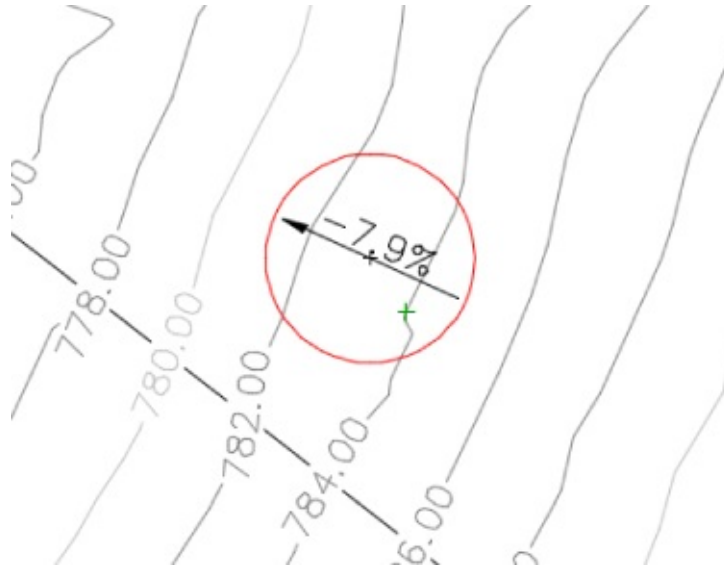

Figure 4.52 A one-point slope label
5. Zoom in on the circle drawn on the western portion of the site and use a Center Osnap to place a label at its center, similar to that shown in Figure 4.52.